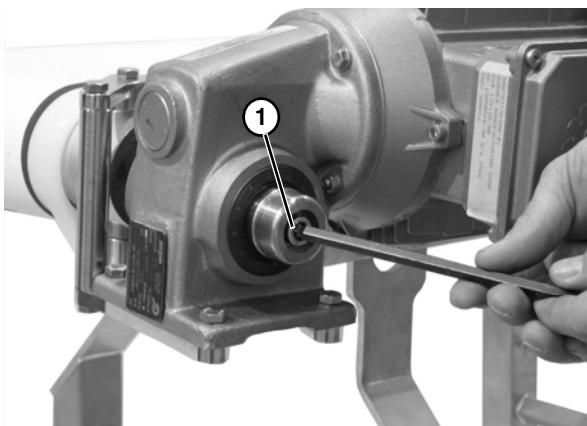

Figure 16
6. Remove the plastic cap on the end of the motor and remove the socket head screw and the bore plug. (**Figure 16, item 1**).
7. Slide the gearmotor assembly off of the drive spindle. (**Figure 16**).